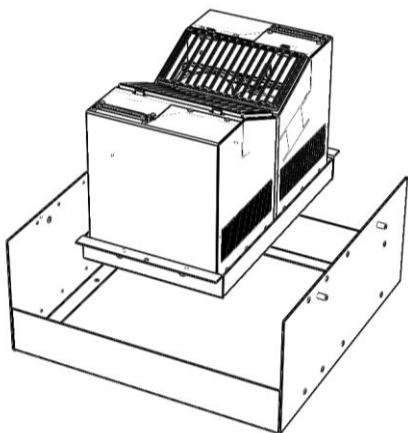
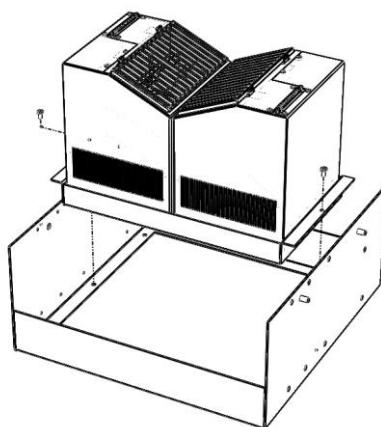

Figure 8. LED Arrays & Conveyor Cradle,
Figure 9. LED Arrays & Conveyor Cradle,
**NOTE: The Retrofit Kit can be installed on the Conveyor Cradle in an in-line (Figure 8) or side-by-side (Figure 9) position as required by your application need.**